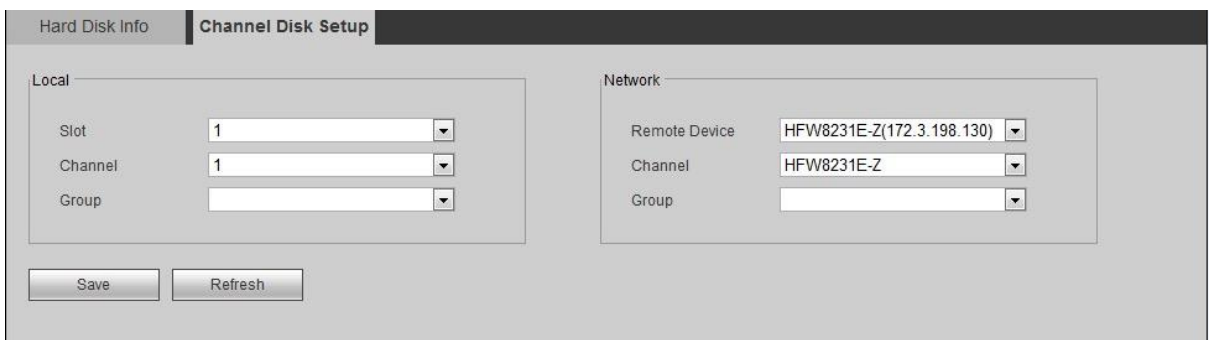

Figure 4-60
Step 1 Select “Setup>Storage > Hard Disk Info> Channel Disk Setup”. The system displays “Channel Disk Setup” interface, as shown in Figure 4-60.